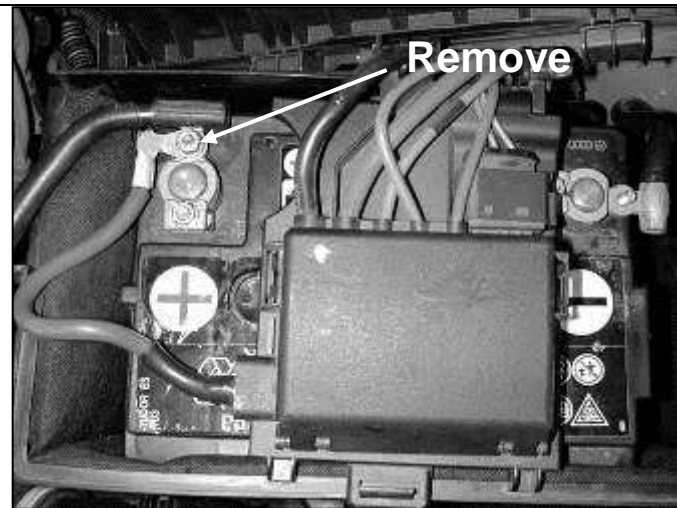

Fig. 1
- d. Lift the plastic battery cover and disconnect both the negative and positive battery terminal. Remove the short positive lead from the positive battery terminal. (Fig. 1)